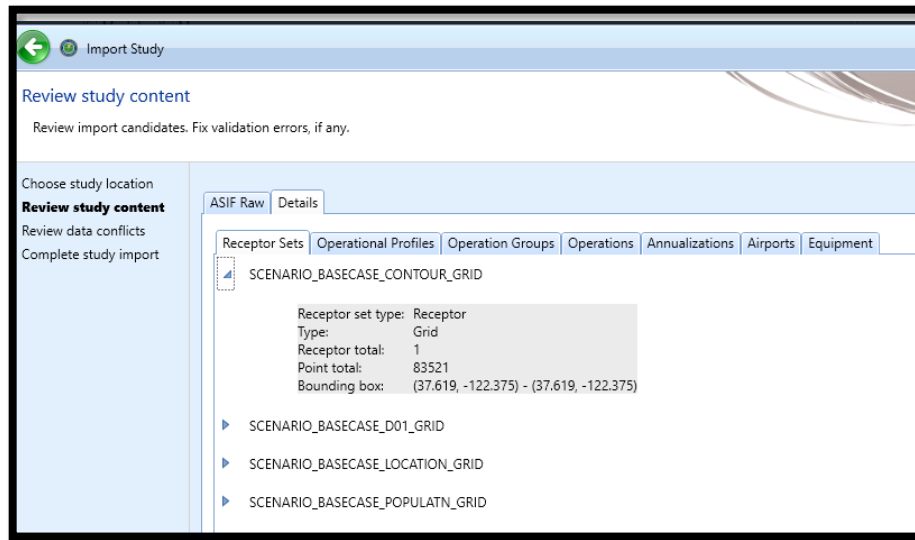

Figure 64. Review study content – Details tab
- The *Details* tab displays a detailed view of the study content, organized by categories (Figure 64).